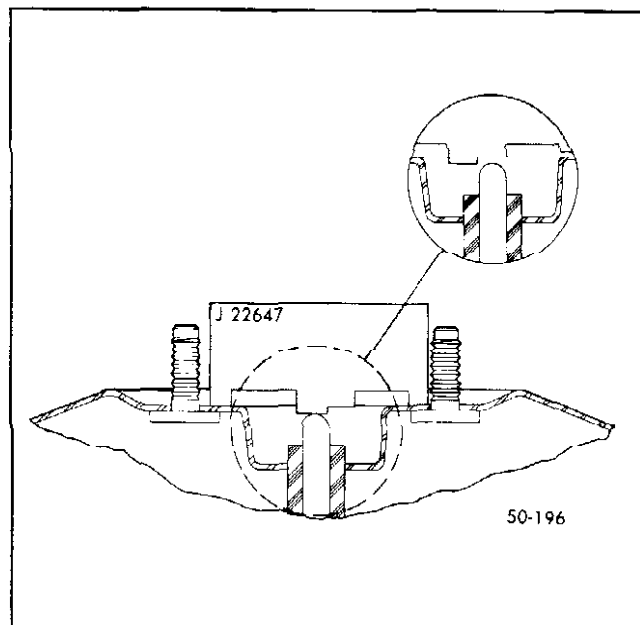

Figure 50-89 Gaging Piston Rod
6. Place Gage J-22647 over the piston rod in a position which will allow the gage to be slipped to the left or right without contacting the studs. See Figure 50-89.